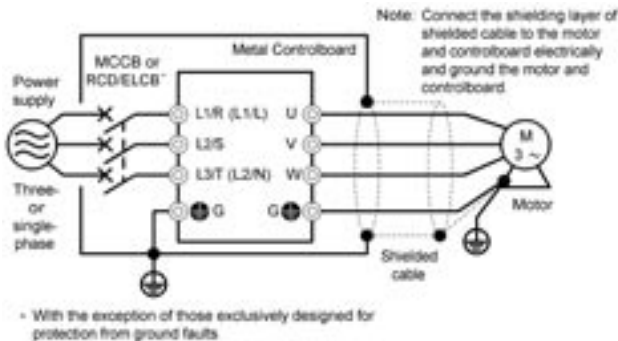

Figure 10.3 Installing the drive into a Controlboard
- (4) If noise from the drive exceeds the permissible level, enclose the drive and its peripherals within a metal control board as shown in Figure 10.3.